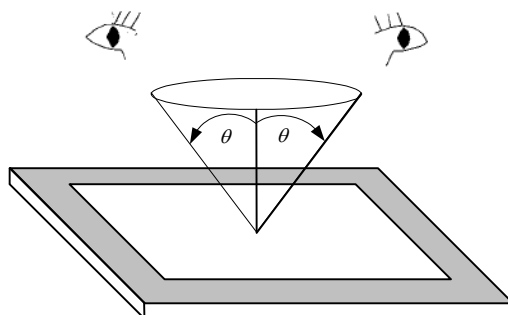

Fig. 11.1
- (2) Inspection distance(viewing distance to LCD module) : Approximately 30 cm
- (3) Viewing angle :  $\leq 30^\circ$
- (4) Refer to the Measurement Conditions described in Item 6.1 for all other conditions.
- The viewing zone is defined with angle  $\theta$  shown in Fig. 11.1 The inspection should be performed within  $30^\circ$  when display is shut down. The inspection should be performed within  $5^\circ$  when display is power on.